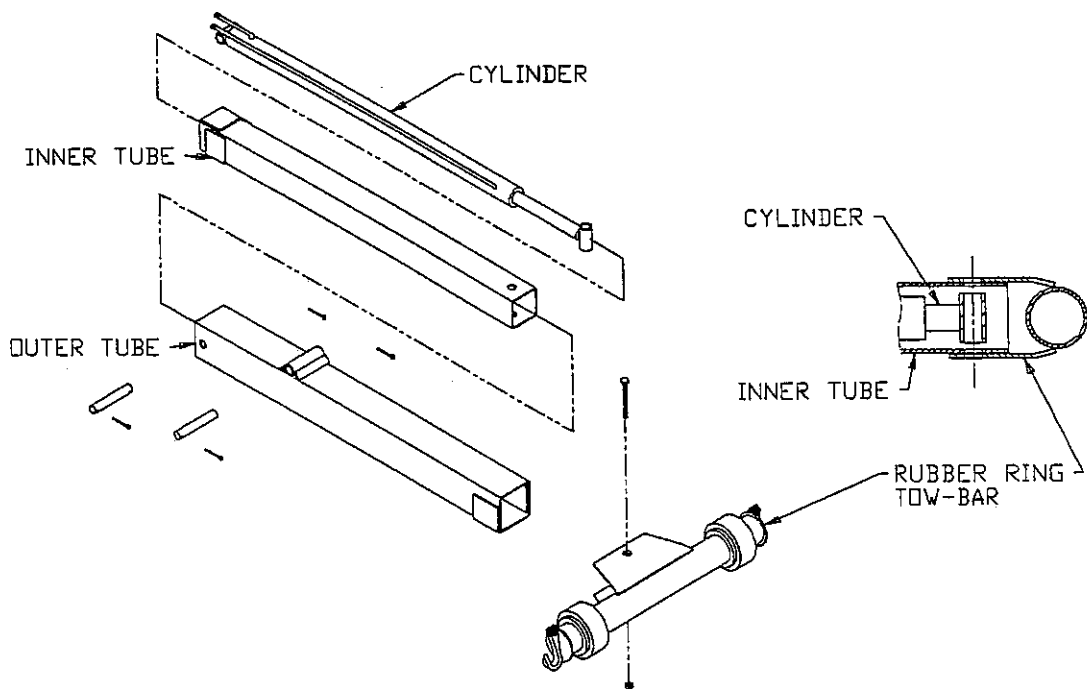

FIG. 4-34 TOWBAR INSTALLATION
**4-9.1** Assemble the inner and outer towbar tubes together as follows: (See FIG. 4-34)
4-9.6 Mount the rubber ring towbar cross tube to the towbar inner tube and cylinder shaft using a 1" diameter bolt. Tighten the 1" lock nut so that the rubber ring towbar can swivel on this bolt, but with resistance when the towbar is extended. (See FIG. 4-34)